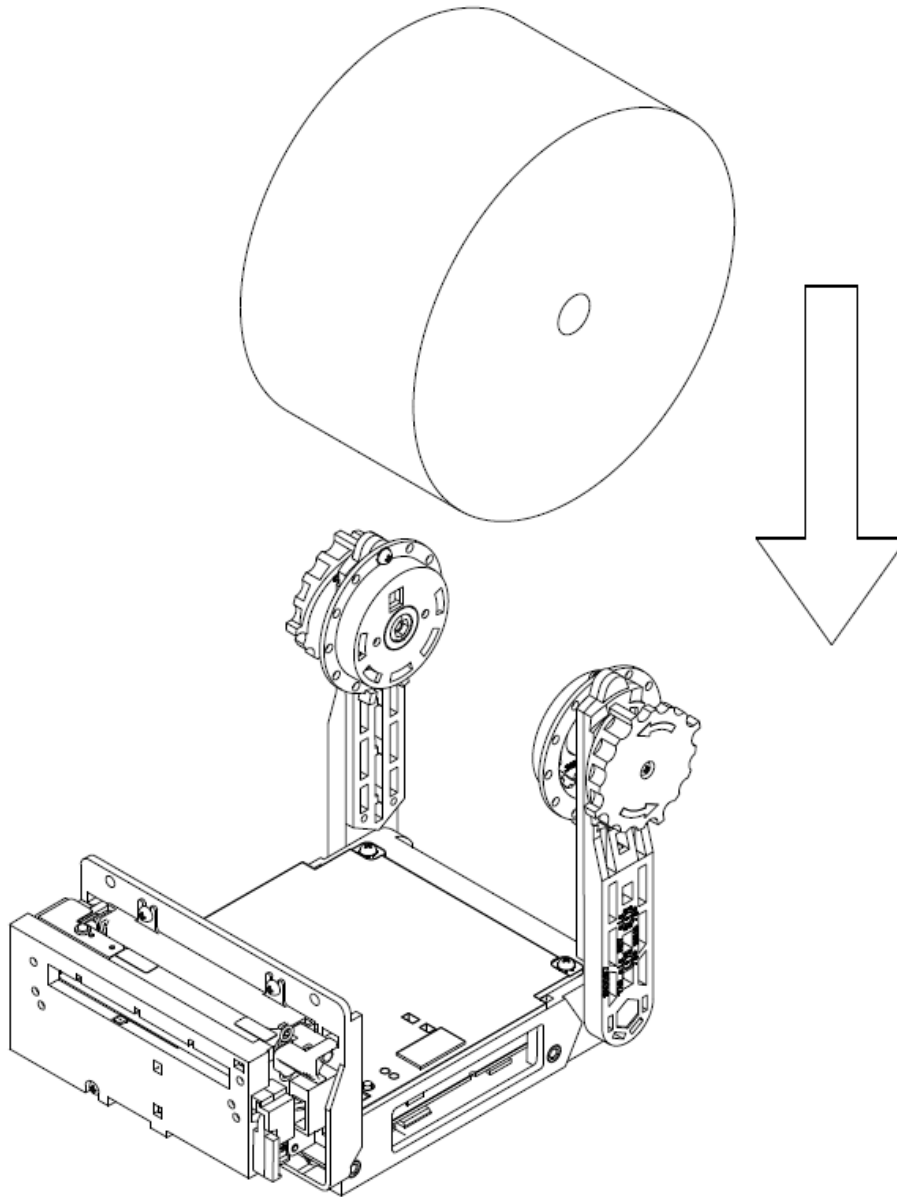

Figure 6: Loading Paper
- Follow instructions on inserting the paper (Figure 6).